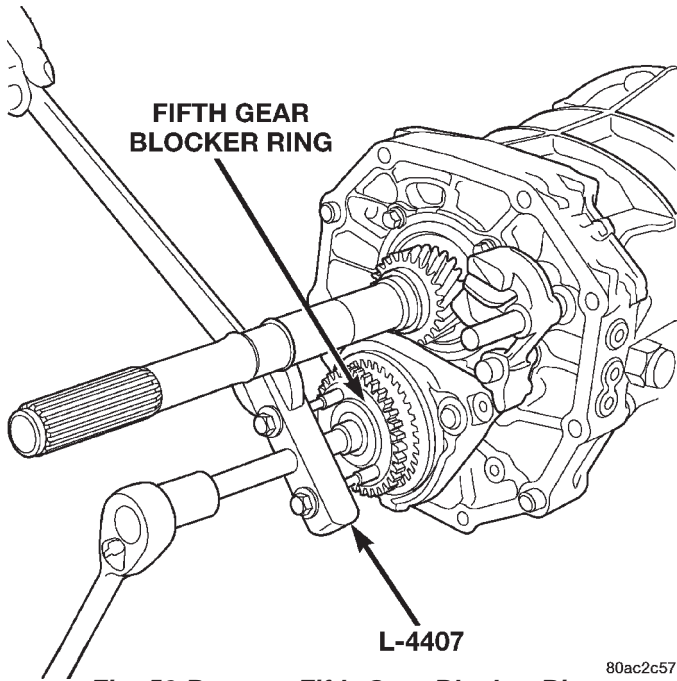

Fig. 52 Remove Fifth Gear Blocker Ring
- (4) Remove fifth gear blocker ring from countershaft assembly with Puller L-4407 (Fig. 52).